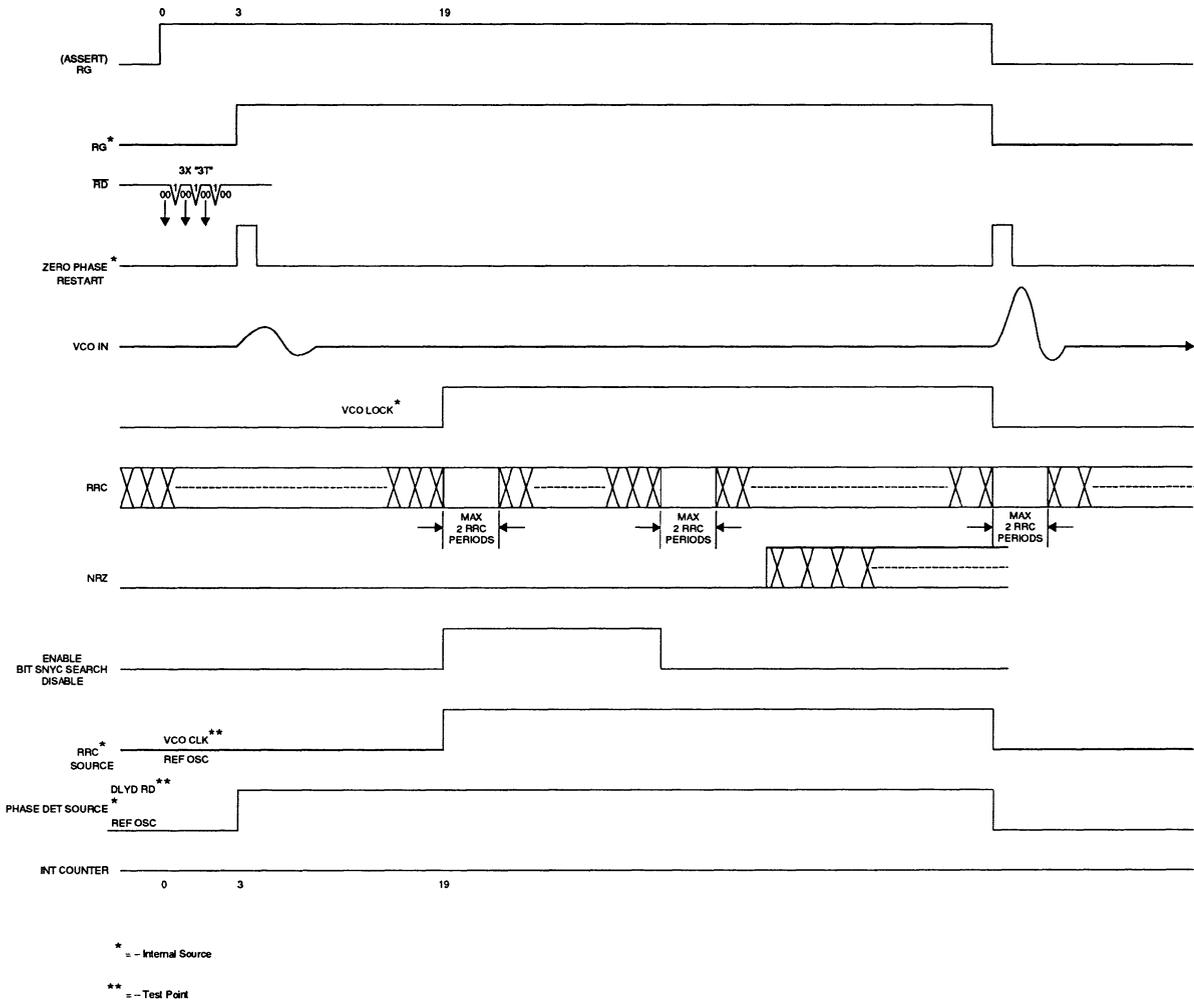

FIGURE 7: Read Mode Locking Sequence (Soft and Hard Sector)
After Read Mode is terminated (RG low), the VCO and RRC sources switch from \overline{RD} and VCO/3, respectively, to the reference crystal. After a delay of one NRZ bit time (minimum) from when RG is low, write gate (WG) may be enabled (see figure 7 for timing diagram). NRZ is a tristatable pin controlled by RG. NRZ will change states within one NRZ bit time. The NRZ pin can be connected to WDNRZ to form a bi-directional port.